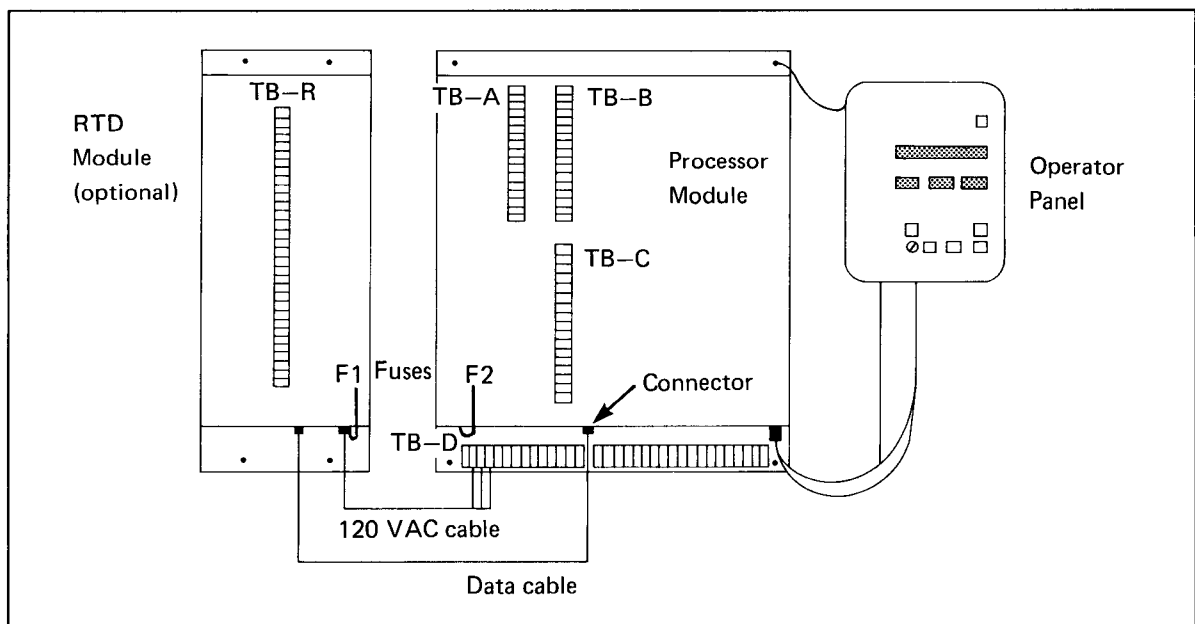

Figure 8.1 – Processor and RTD Module
Step 3 – Verify that all wires connecting to the terminals of the terminal blocks TB-A, TB-B, TB-C and TB-D are marked and that it is apparent which designations relate to which terminals. (See Figure 8.1.)
Step 6 – Remove the optional Data Cable Connector from the Processor Module. (See Figure 8.1.)
Step 3 – Verify that all wires connecting to the terminals of terminal block TB-R are clearly marked and it is clear which terminal relates to the designations. (See Figure 8.1.)